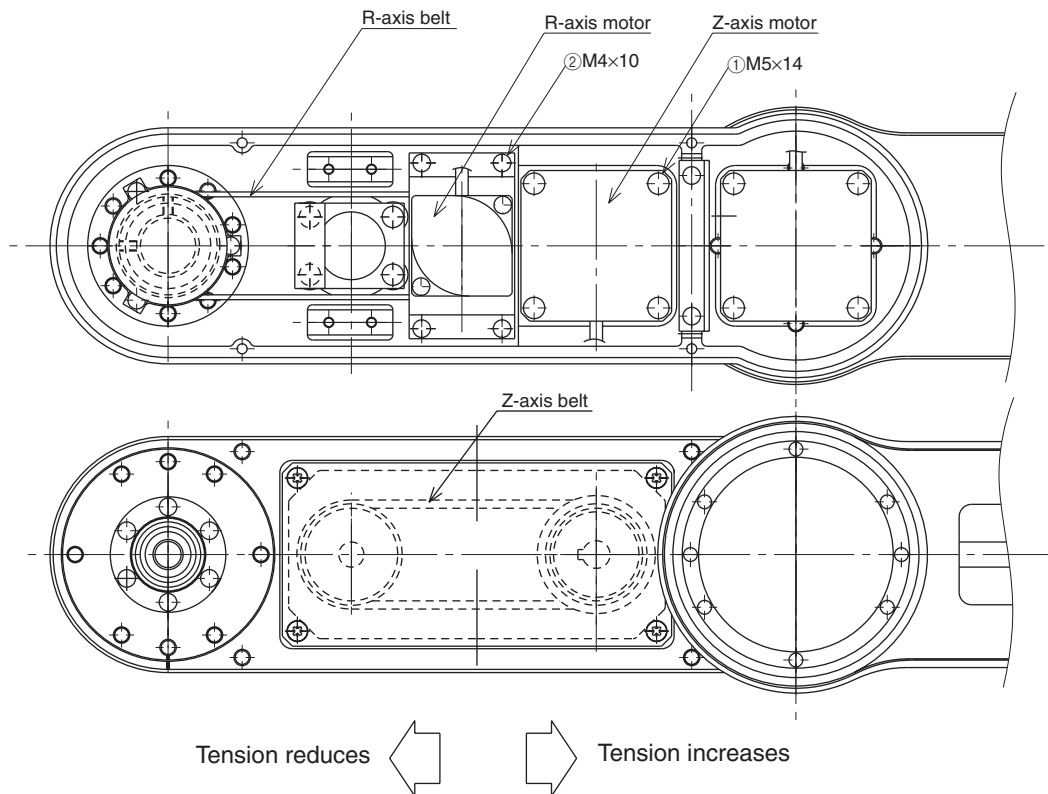

Fig. 4-13 R6YXC500, R6YXC600
1. Loosen the bolt 1 shown in Fig. 4-13.
1. Loosen the bolt 2 shown in Fig. 4-13.